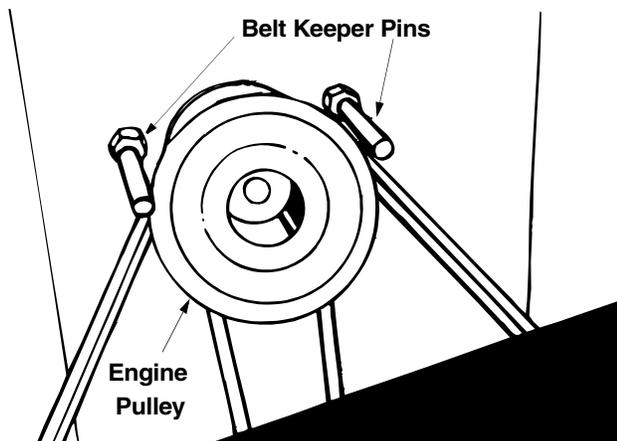
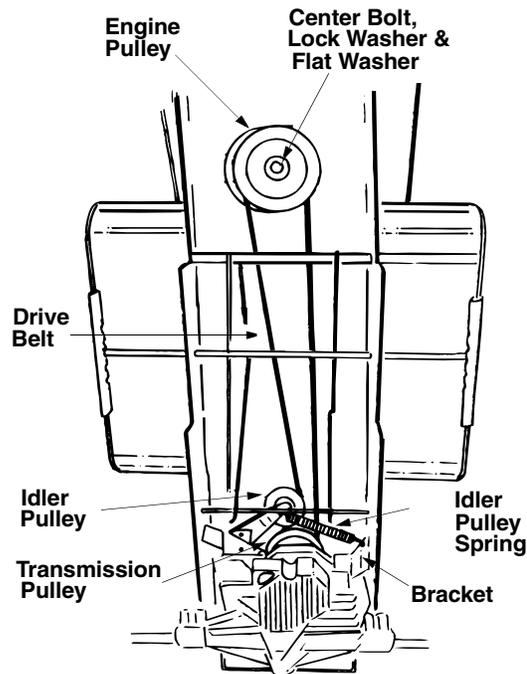

Figure 19
Figure 22
NOTE: Figure 19 and Figure 22 are shown with the unit tipped up for clarity. It is not necessary to tip the unit to remove the belts. However, for convenience, if you decide to tip it, remove the battery from the unit first.
NOTE: When reassembling, make certain belt keeper pins are assembled in the same locations from which they were removed. See Figure 19.
- Remove the belt keeper pins from the lower frame. Refer to Figure 19.
- Disconnect the idler pulley spring which is attached to a bracket on the frame, inside the left rear wheel. Use a spring puller or other suitable tool. See Figure 22 .
- Remove the center bolt, lock washer and flat washer, and let the engine pulley drop down so the belt is past the belt guards. See Figure 22 .